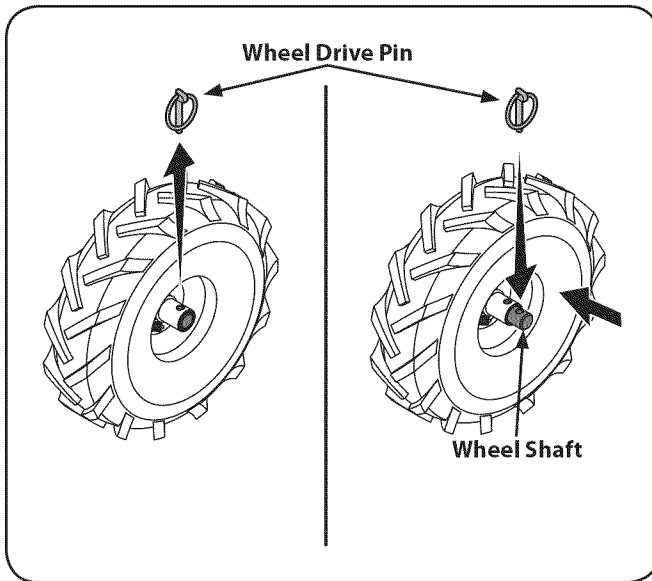

Figure 3-5
1. Place a sturdy block under the transmission to raise one wheel about 1" off the ground. Remove the wheel drive pin from the wheel hub and wheel shaft. See Fig. 3-5.
2. Slide the wheel fully inward on the wheel shaft. Reinstall the wheel drive pin through the wheel shaft only (not through the wheel hub). See Fig. 3-5. The wheel should now spin freely (freewheel) on the wheel shaft. Repeat with the other wheel.